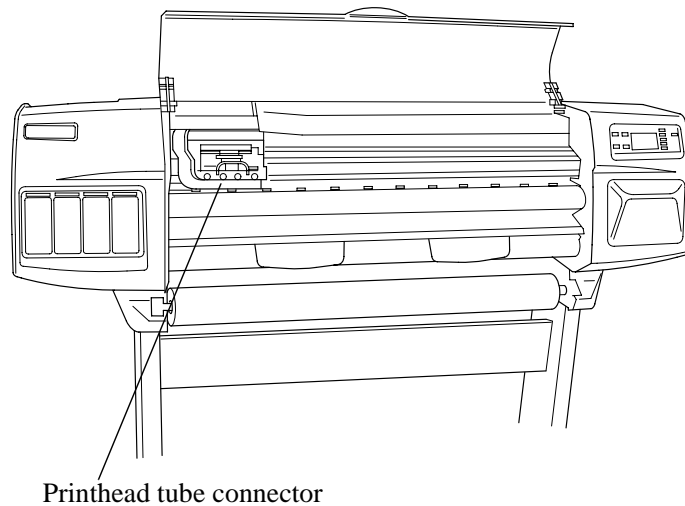

Figure 45: Cutter Assembly
Refer to Figure 45 to Figure 47.
2. Move the carriage to a position where you can access the printhead tube connector (refer to Figure 45).